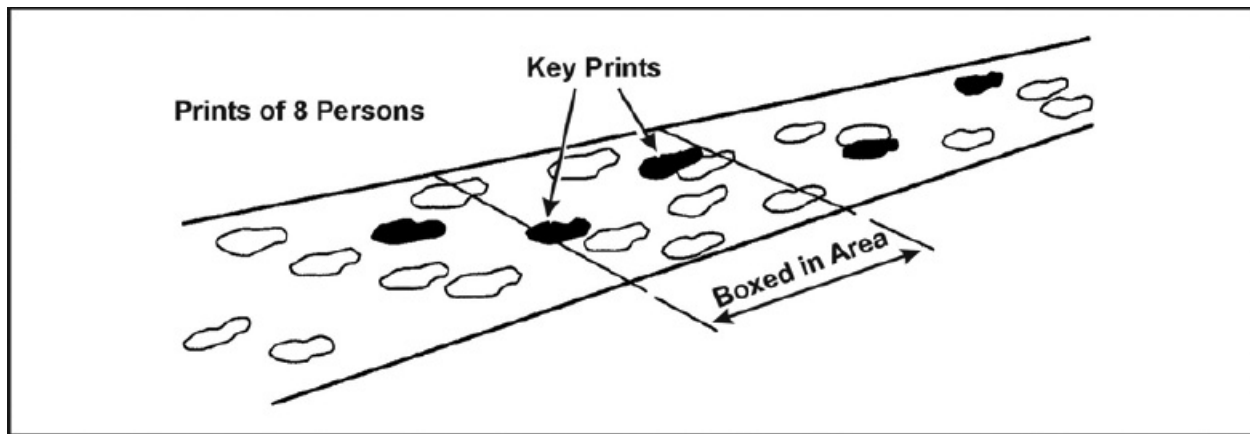

Figure 4-13. Using the stride as a unit of measure
- Use the stride as a unit of measure when determining key prints (Figure 4-13). He uses these prints and the edges of the road or trail to box in an area to analyze.